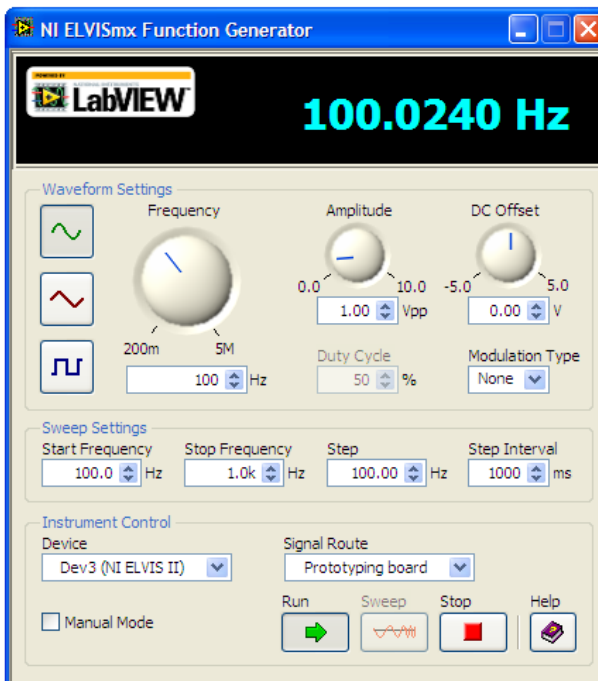

Fig. 13. Function Generator set to produce a 100 Hz sine wave with 1V amplitude.
6. Use these settings to obtain a 100 Hz sine wave with peak amplitude of 1 V and DC offset of 0 V. Note that this signal will be applied to the RC low pass filter. The function generator SFP should now appear as shown in figure 13.